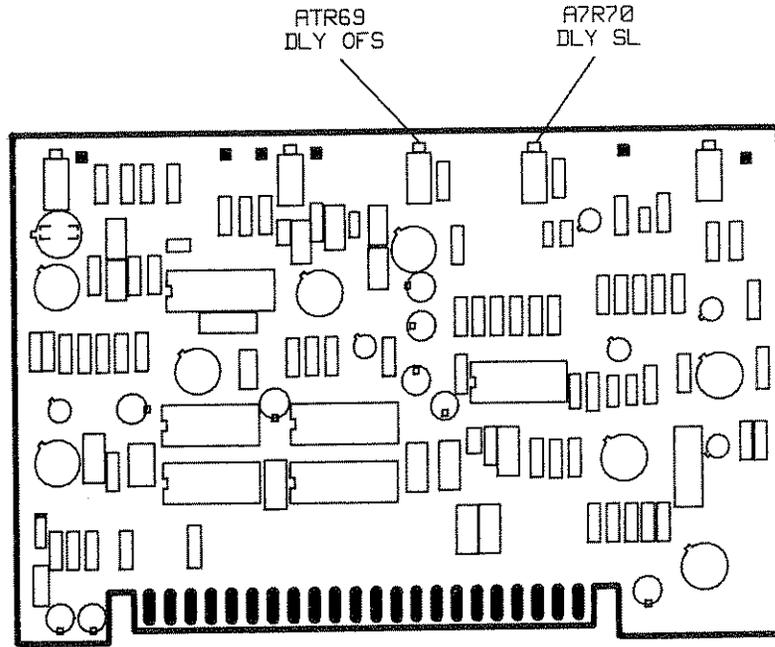

Figure 5-13. Delay Compensation Adjustment Location
5. Adjust A7R69 (DLY OFS) for a minimum shift of the marker while changing sweep time to 10 msec. Refer to Figure 5-13.
9. Adjust A7R70 (DLY SL) for minimum shift of the marker while changing sweep time to 10 msec. Refer to Figure 5-13.